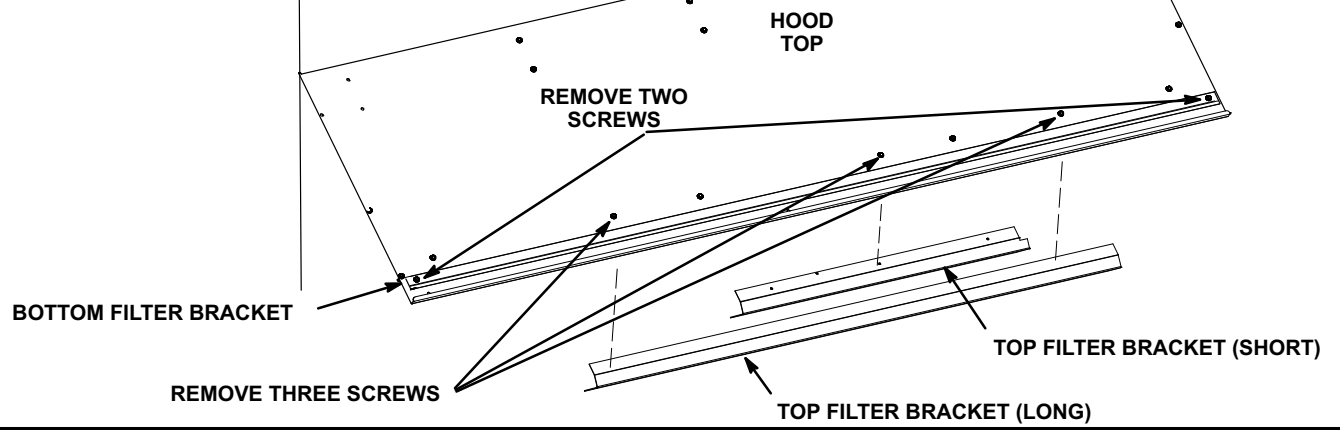

FIGURE 8
- 11- *Factory-Installed Economizers* - Remove the bottom filter bracket from the hood top assembly panel. See figure 8.
- 12- *Factory-Installed Economizers* - Remove the short and long top filter brackets from the hood top assembly panel. See figure 8.